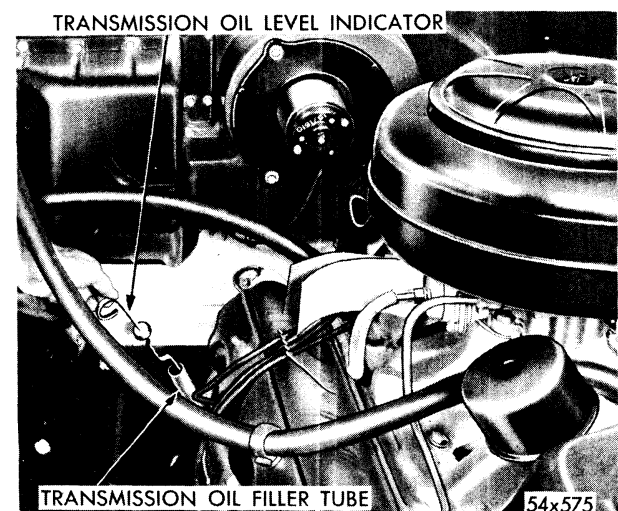

Fig. 34—Checking Fluid Level (Typical View)
23. CHECKING FLUID LEVEL (REFER TO FIG. 34)